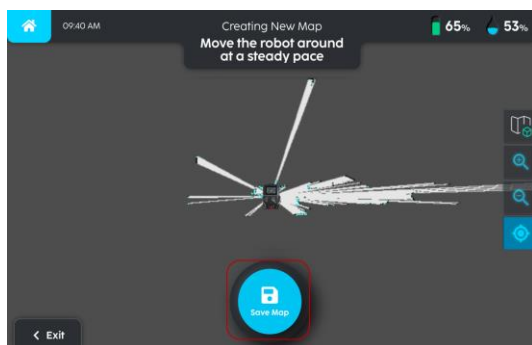

FIGURE 5-14
1. Select 'PERIMETER' and click 'START' (Fig. 5-14).